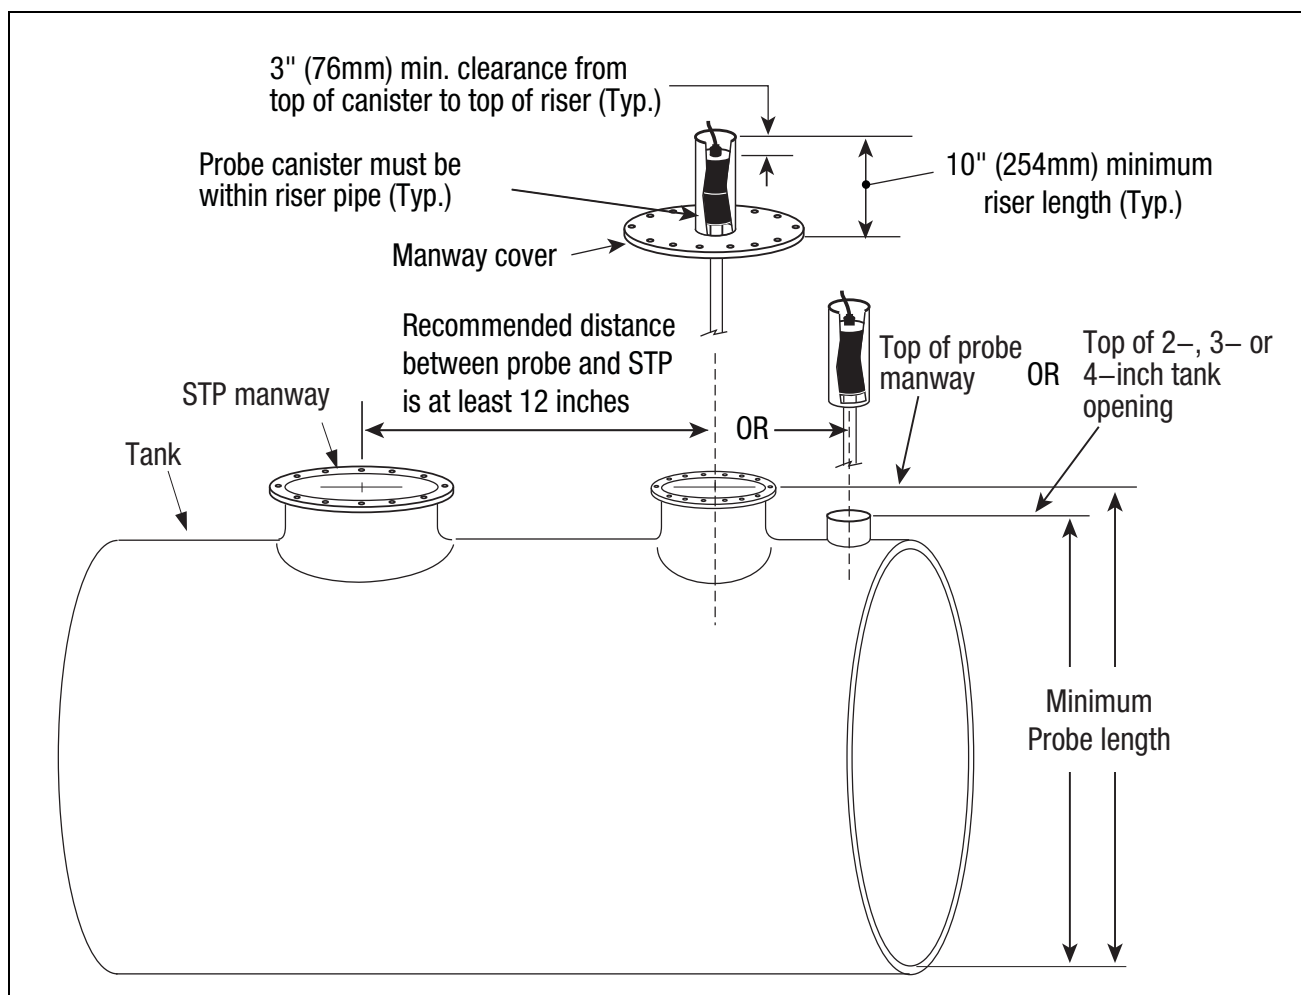

Figure 9. Determining the Minimum Mag Probe Length
1. Measure the distance from the bottom of the tank to the top of the probe manway, or the 2-, 3- or 4-inch tank opening- this is the minimum probe length (ref. Figure 9).